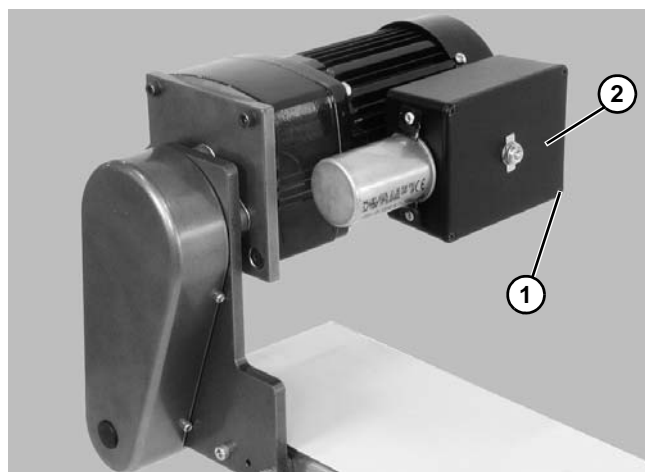

Figure 19
- Loosen terminal box screws (**Figure 19, item 1**) and remove cover (**Figure 19, item 2**).